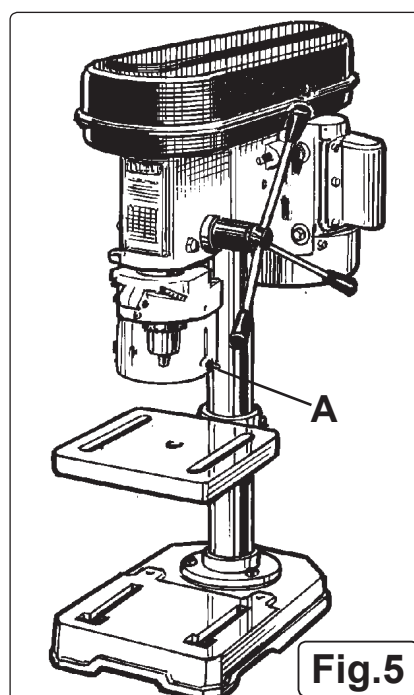

Fig.5
6.7.1. Always adjust guard length, by loosening wing nut at each side (fig.5.A), to give maximum protection before starting to drill.